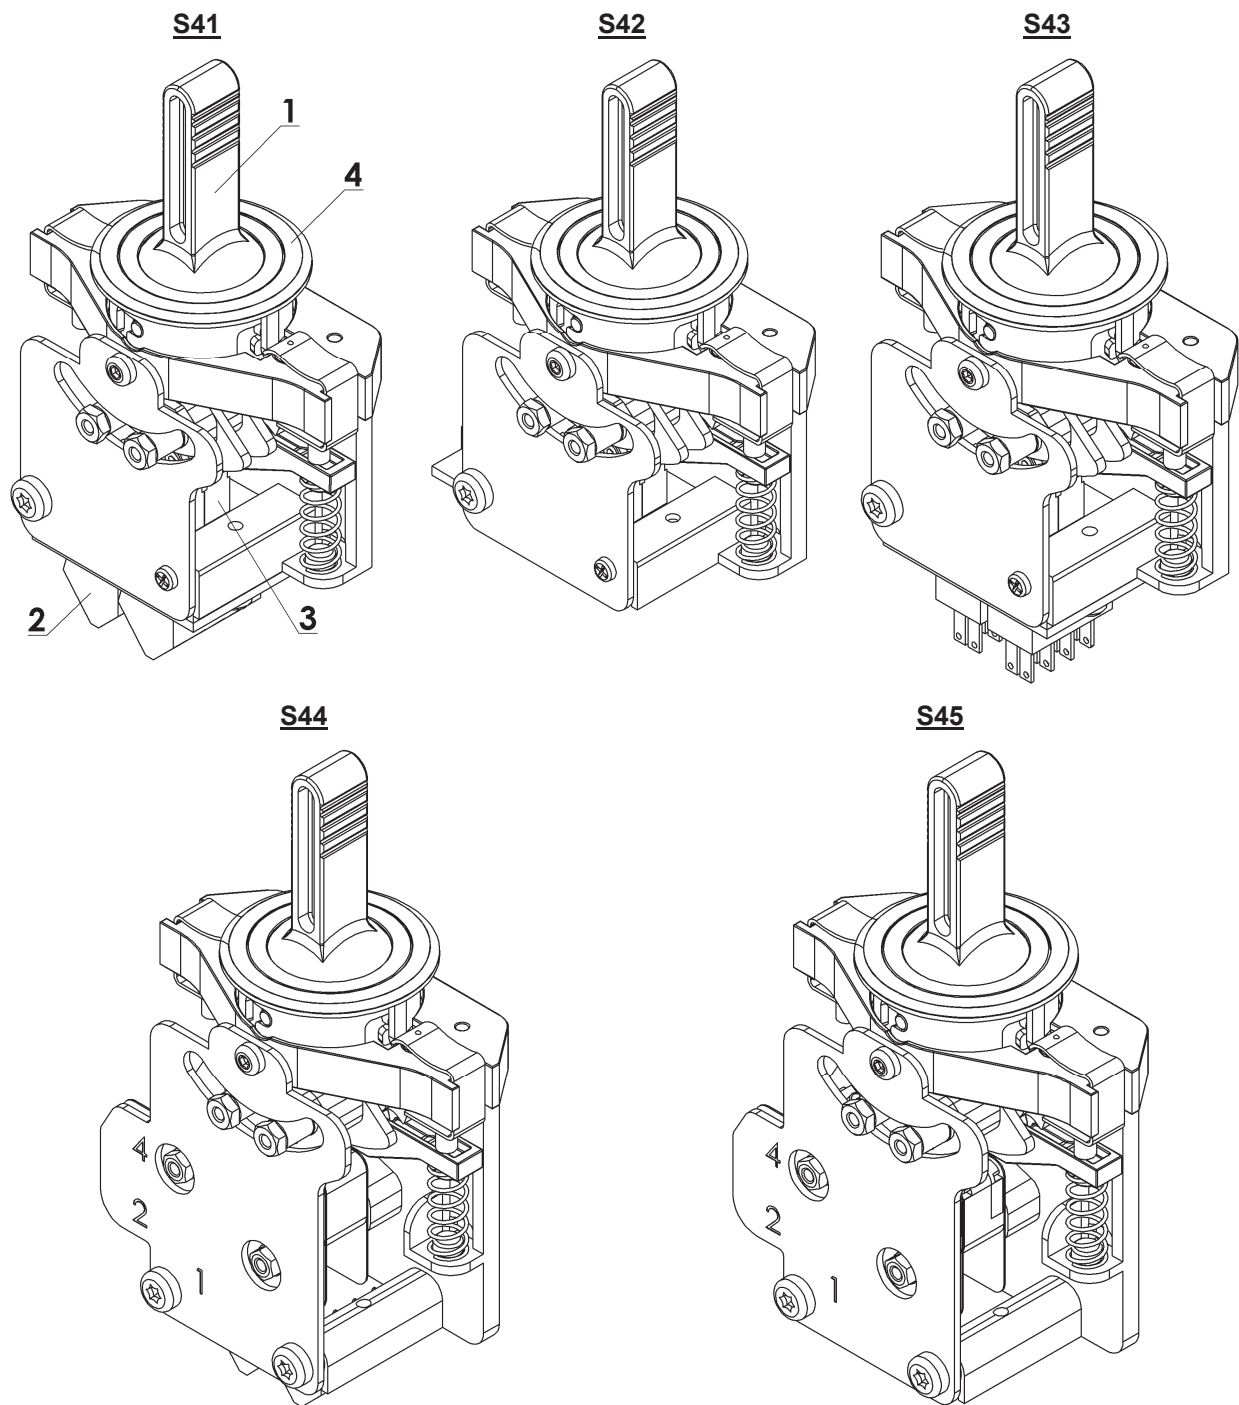

Figure 1: Lever switches S41 to S45
The lever switches in Figure 1 – types S41 to S45 – are switches, which generate digital output signals depending on the position of the operator handle (1). For this purpose, each switch has a maximum of 5 (S41 to S43) or 4 (S44 and S45) micro-switches (2) with varying switching programs, thus providing for adaptability to the customer's demands. Besides the switching program, the micro-switch type, the electric interface, the colour of the centering rings (4), and the mechanical features (angle of deflection of the operator handle, form of the grips, and its detent and spring return functions) are variable as well.